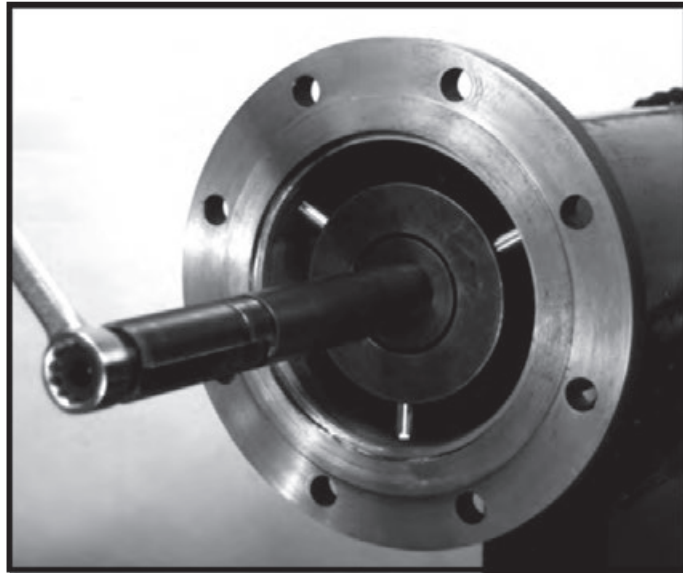

Figure 3-15.
7. Place the mandrel assembly into the flange I.D. with one leg at the 6 o'clock position. The legs should be kept as close as possible to the flange I.D. edge, yet back far enough to perform the desired operation. Snug the mandrel into place by tightening the draw bar nut with the supplied 1-1/8" wrench (Figure 3-15).